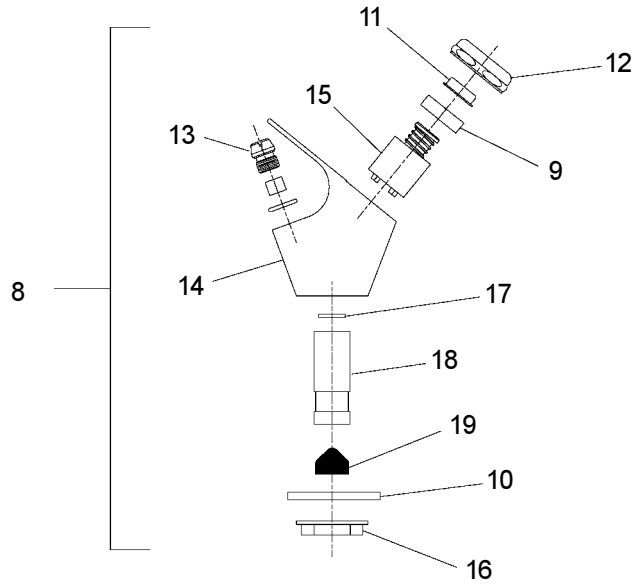

FIG. 2
STREAM HEIGHT ADJUSTMENT: Stream height is factory set at 45-50 PSI. If supply pressure varies greatly from this, remove items 11, and 12 (See figure 2) from bubbler assembly and adjust the screw on the regulator (Item 15). Clockwise adjustment will raise stream height and counterclockwise will lower the stream height. A stream height of 1-1/2" (38mm) is recommended.